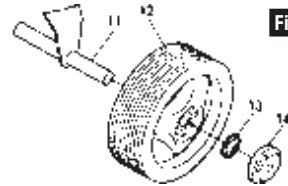

Fig.5
Thread the wheel (12, Fig. 5) on to the axle (11), secure it using the special washer (13), so that the outer rim of the washer faces outwards, and push the plastic cap (14) home firmly.